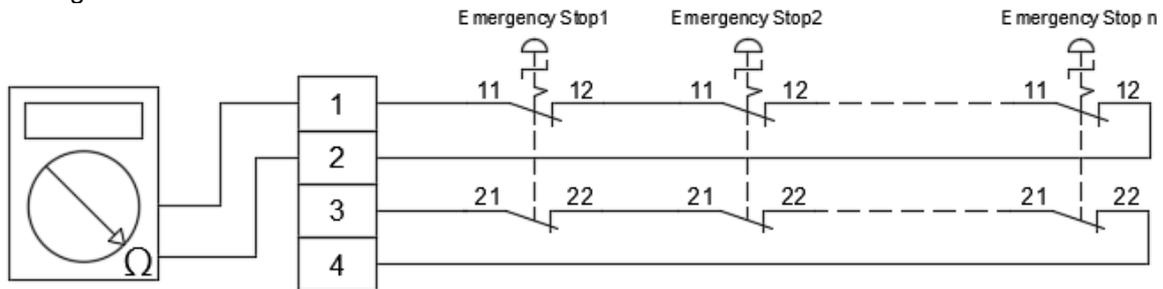

Figure 8.15 Reset emergency stop signal and measure Pin 1 and Pin 2
3. Measure Pin 1 and Pin 2 of the safety connector; the reading on the multimeter must be $< 0.5 \Omega$, as shown in Figure 8.15 below.